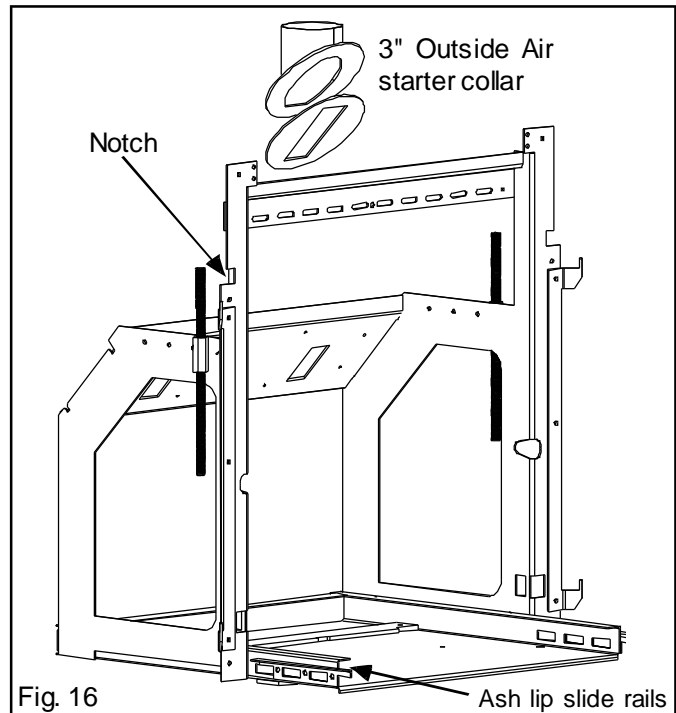
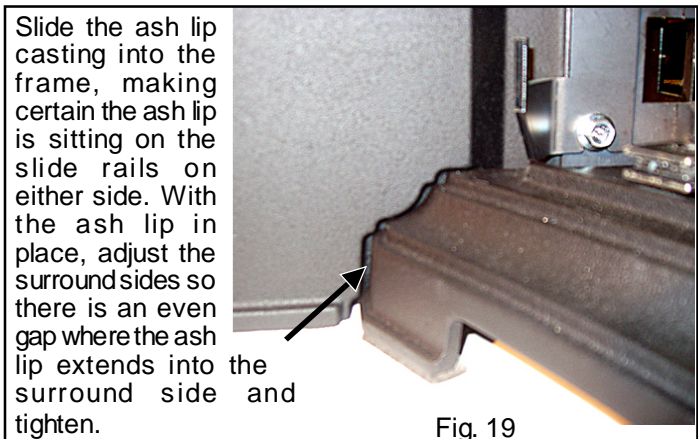

Fig. 16
Fig. 19
3. Install the 3 piece cast surround set to the sides and top of the mounting frame with the bolts and nuts supplied. The left and right side should be done before the center section is installed. Make sure the bolts are loose. Do not remove the side panel hinges. The left and right side wings should be standing up aligned with the side of the mounting frame and slid inward towards the center. Note: The wings mount on the rear side below the notch and on the front side above the notch. See Fig. 16 & 18. Slide the cast ash lip onto the frame and check to make sure it can go against the roped frame rails and fits into the pockets on the left and right cast sides. See Fig. 19. Install the center section.